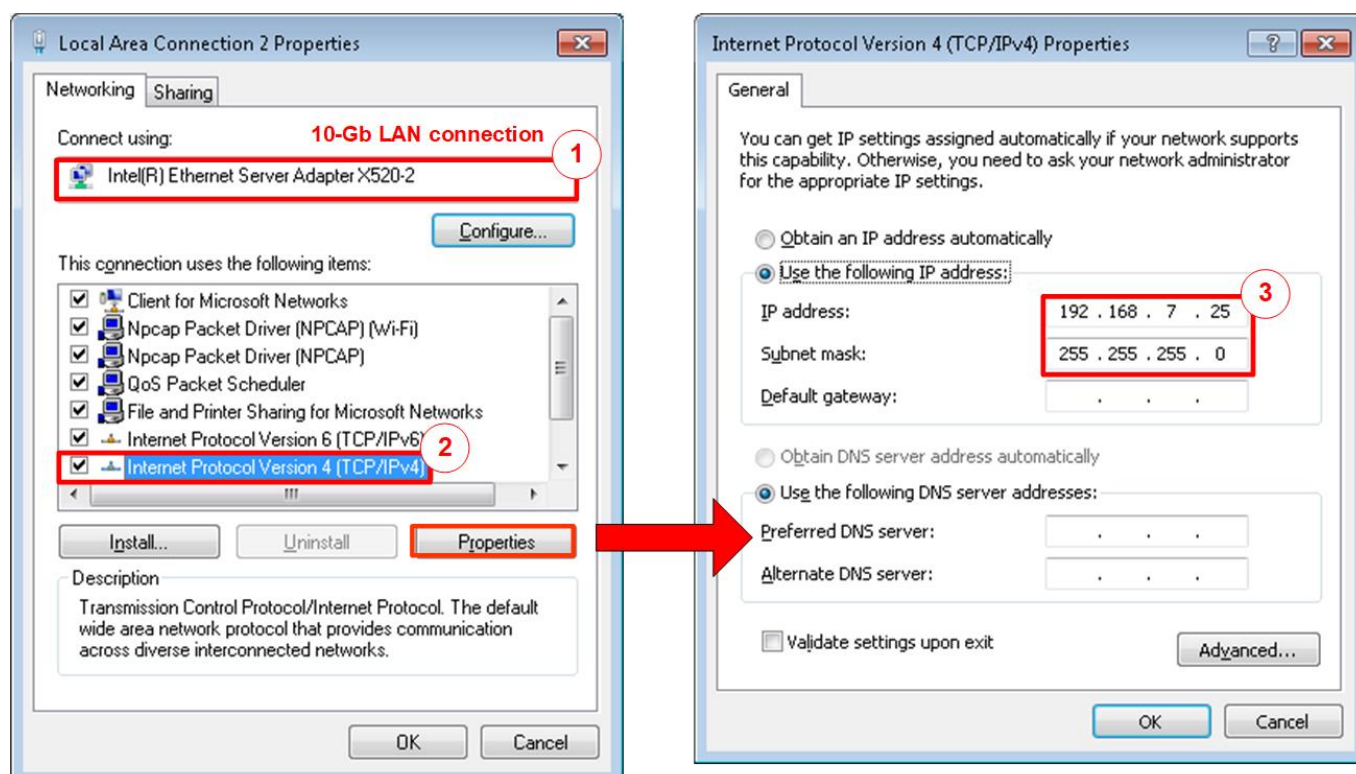

Figure 2-1 Setting IP address for PC
- 1) Open Local Area Connection Properties of the 10G Ethernet connection, as shown on the left window of Figure 2-1.
- 3) Set IP address = 192.168.7.25 and Subnet mask = 255.255.255.0, as shown on the right window of Figure 2-1.